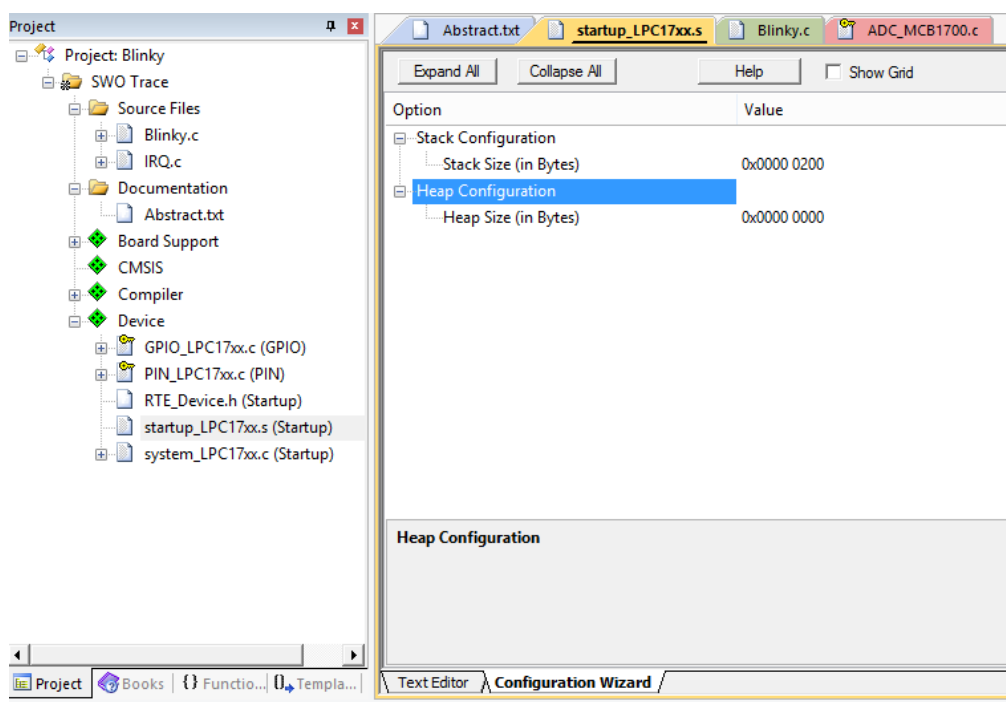

Fig. 6: Workspace
6. Double click on *startup_LPC17xx.s* to open the editor. Click on the "**Configuration Wizard**" tab at the bottom of the editor window as shown in Figure 6. The Wizard window converts the "Text Editor" window so that the programmer may view the configuration options more easily. It is possible to adjust the stack and heap sizes of the LCP1768 chip here if necessary as depicted in Figure 6.